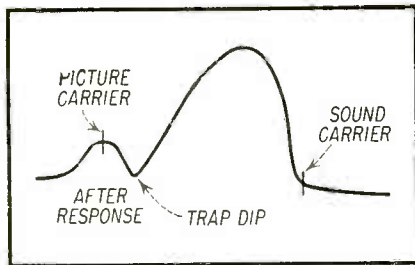

Fig. 1—Effect of trap dip.
A. This situation arises when a trap is misadjusted in such manner that the picture carrier is separated from the main portion of the curve by the trap dip, as shown in Fig. 1.